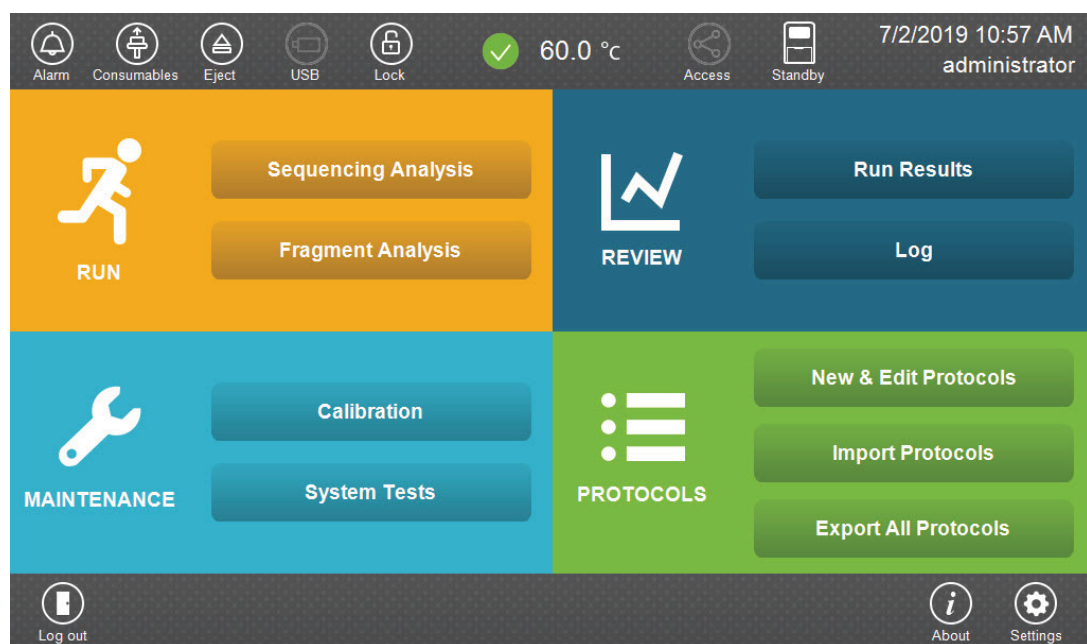

Figure 6. Spectrum Compact CE System Software 'Main Menu' screen.
3. Select **Fragment Analysis** on the 'Main Menu' screen (Figure 6).